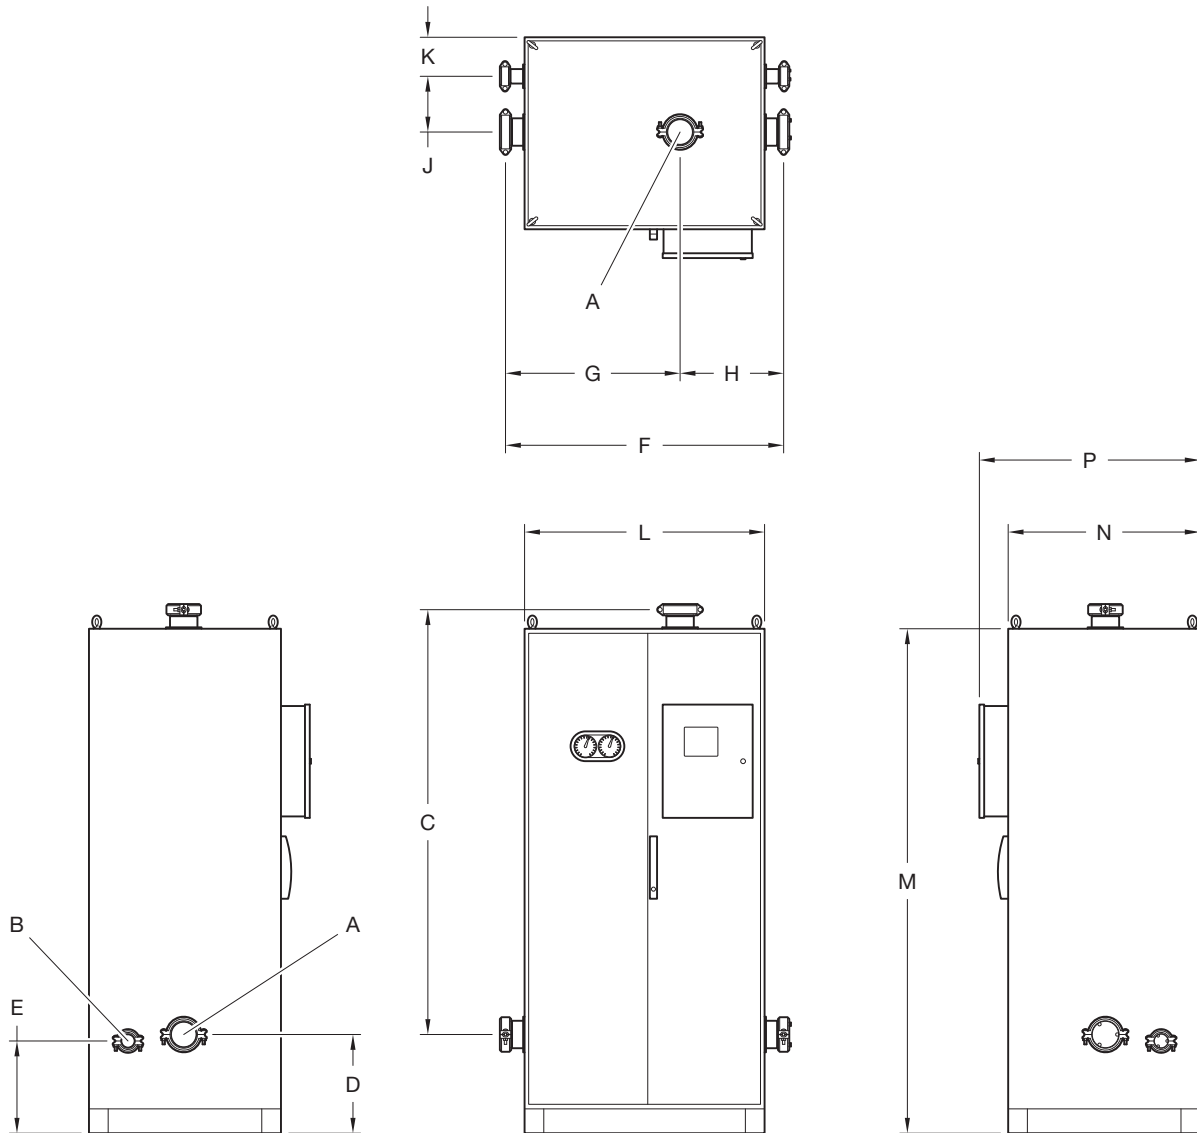
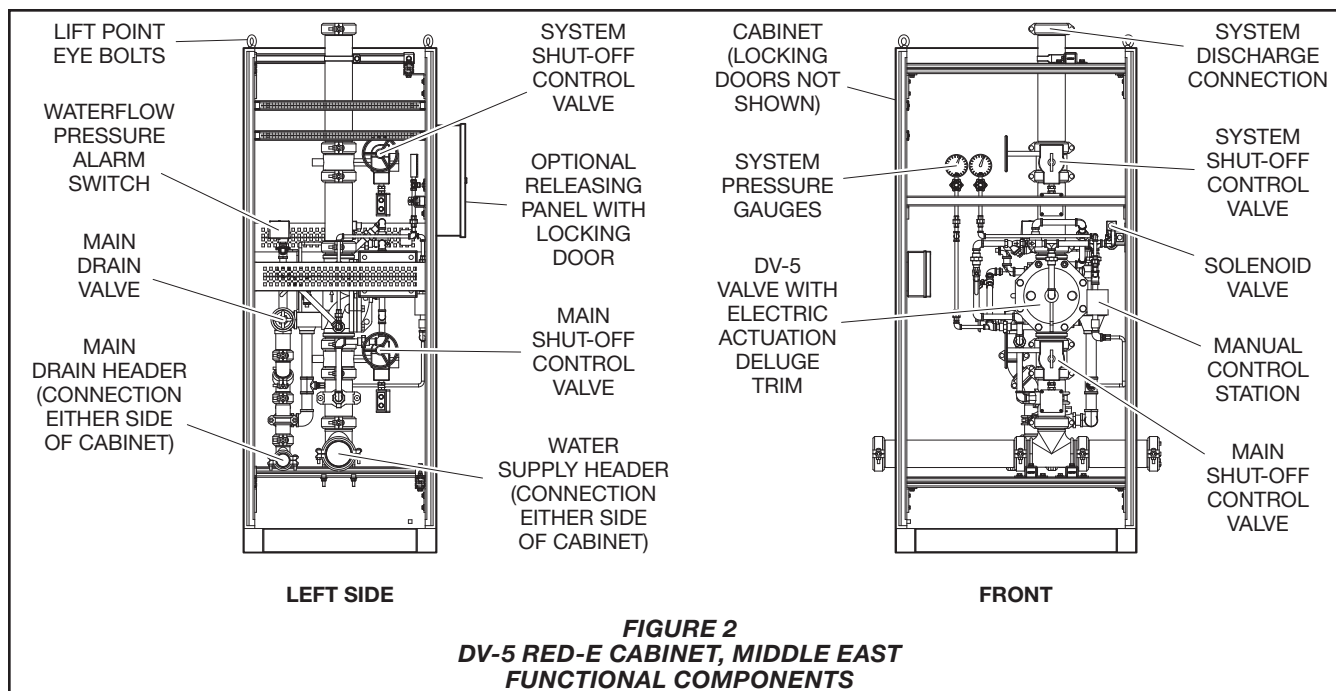

FIGURE 1
FIGURE 2
Figure 1 provides dimensional information for Red-E Cabinets, and Figure 2 illustrates the typical assembly arrangement.
- Installation of a suitably sized water supply to the water supply header (Port A, Fig. 1)
- Installation of system piping (Port B, Fig. 1) including automatic sprinklers and/or nozzles from the Red-E cabinet outlet
- Installation of drains from main drain header (Port B, Fig. 1)